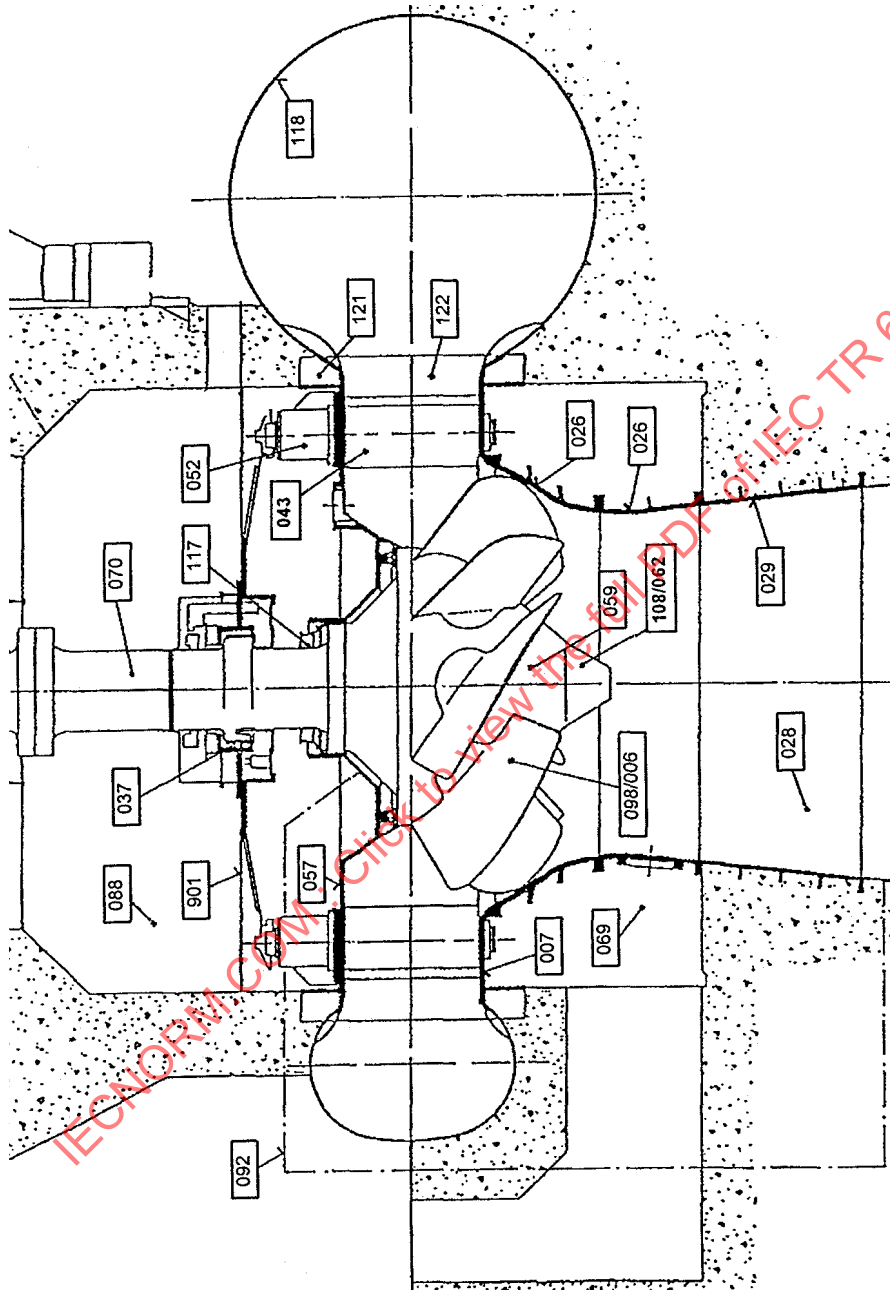

Figure 22 - Diagonal machines
**Diagonal turbines, diagonal storage pumps, diagonal pump-turbines, figure 22**
**Turbines, pompes d'accumulation et pompes-turbines diagonales, figure 22**